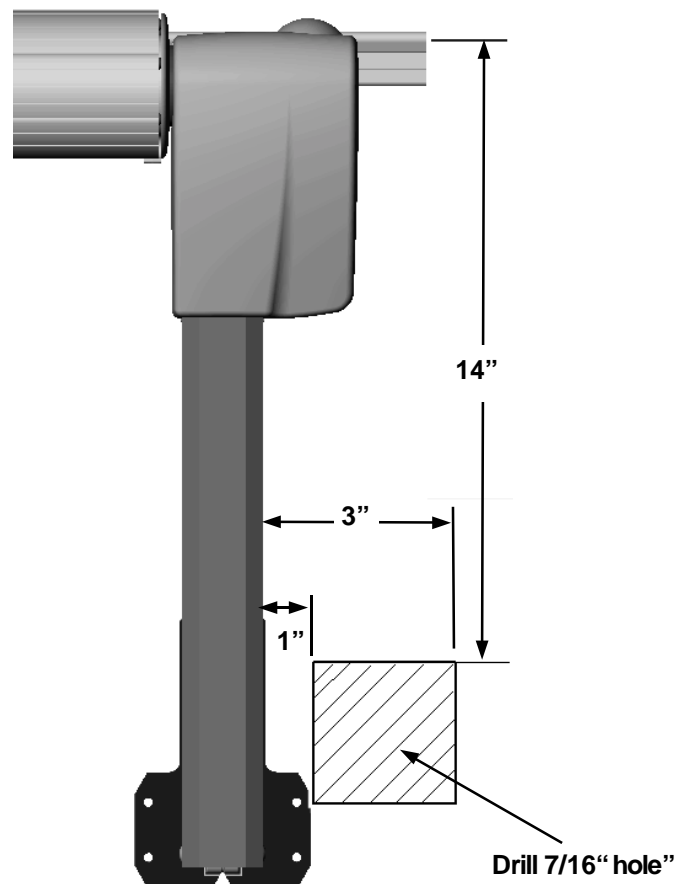

figure. 5
A. Mark and drill a 7/16" diameter hole in the exterior side wall, 14" - 16" below the slot in the awning rail and 1" - 4" to the right of the front arm of the awning (figure 5).